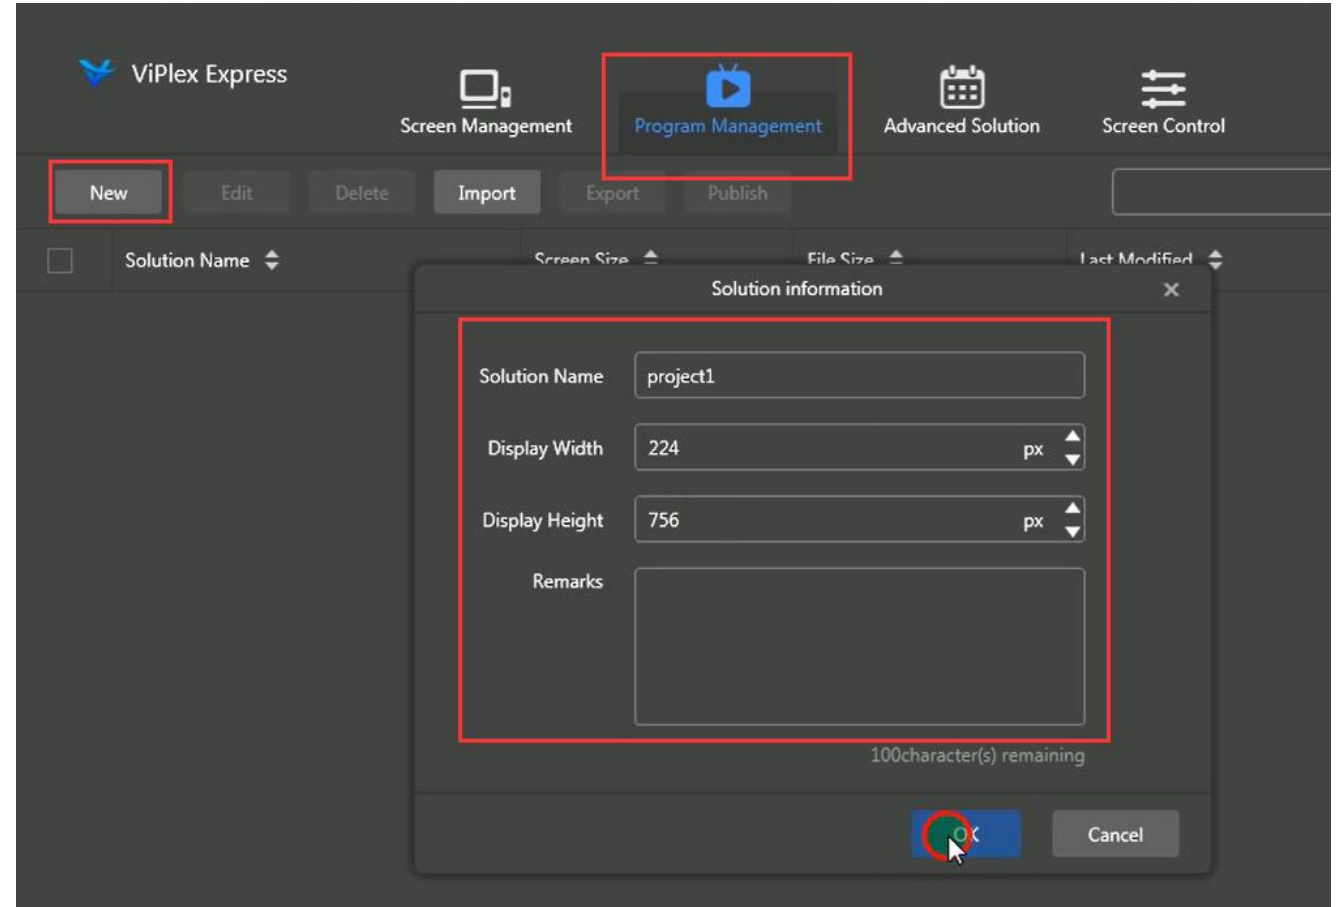

fig 7.6
- d. Click [ok] to edit the playlist, please refer to fig 7.6.